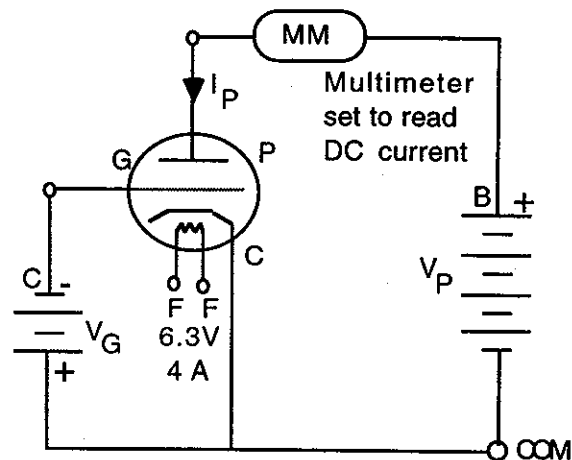
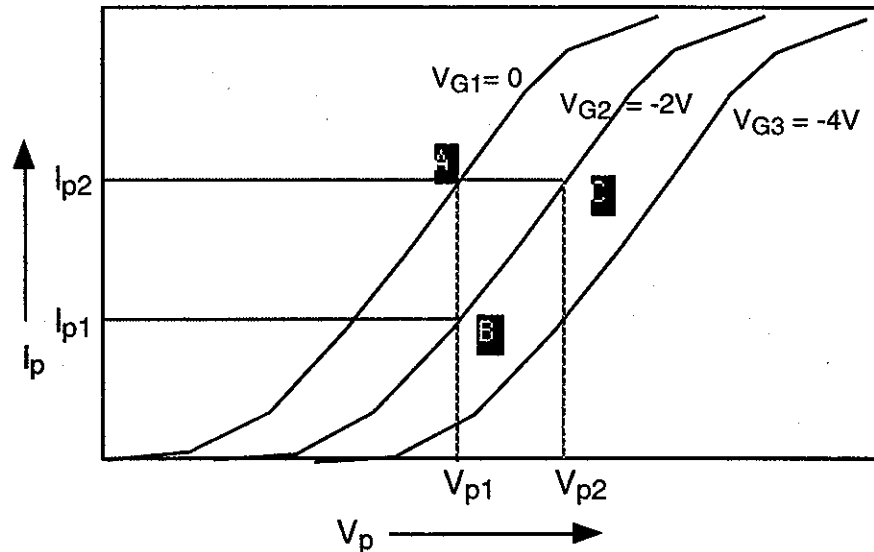

Fig. 2
Fig. 3. Plate Characteristics Of A Triode
Consider the triode circuit shown in Fig. 2. By keeping the grid voltage V_G constant, the plate current I_P can be measured for different values of V_P . Then a graph of I_P vs. V_P can be plotted. Three such graphs for 3 different grid voltages are shown in Fig. 3. These curves are known as the plate characteristic curves of the triode. Another type of characteristic curves of a triode are the mutual characteristic curves which are graphs of I_P vs. V_G at constant values of V_P .
Now consider the point A (Fig. 3) for which the plate current, plate voltage and grid voltage are I_{P2} , V_{P1} and V_{G1} , respectively. If the grid voltage is reduced by $(V_{G1} - V_{G2}) = 2$ volt, the plate current is reduced to I_{P1} . By increasing the plate voltage from V_{P1} to V_{P2} , the plate current will be restored to the value I_{P1} . The amplification factor, μ , of a triode at a constant plate current is defined as
Thus if $\Delta V_P (= V_{P2} - V_{P1})$ and $\Delta I_P (= I_{P2} - I_{P1})$ are small (see Fig. 3),
- Make the circuit as shown in Fig. 2. Connect the filament FF to its power supply (6.3V, 4A). Connect the plate to B+ of the power supply and the terminal marked com to the cathode. Connect the grid to C-. Do not include the load resistor in the circuit. Include one multimeter in the circuit to measure the plate current as shown in the figure. The second multimeter will be used to measure DC voltages as described below.
- (f) Plot the plate characteristics of the triode (similar to the curves shown in Fig. 3).